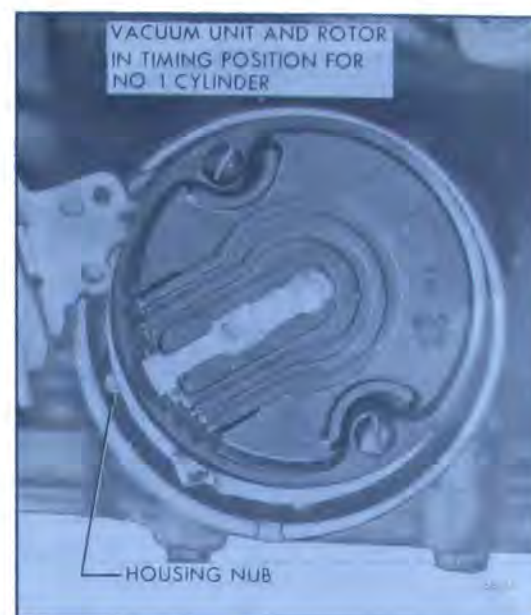

Figure 68-39—Installing Distributor in Engine - V-8 Engines
2. Make a mark on distributor base in line with center of rotor. Then carefully note the direction the vacuum unit points in relation to the engine so that the distributor can be replaced in the exact same position after it is serviced. See Figure 68-39.